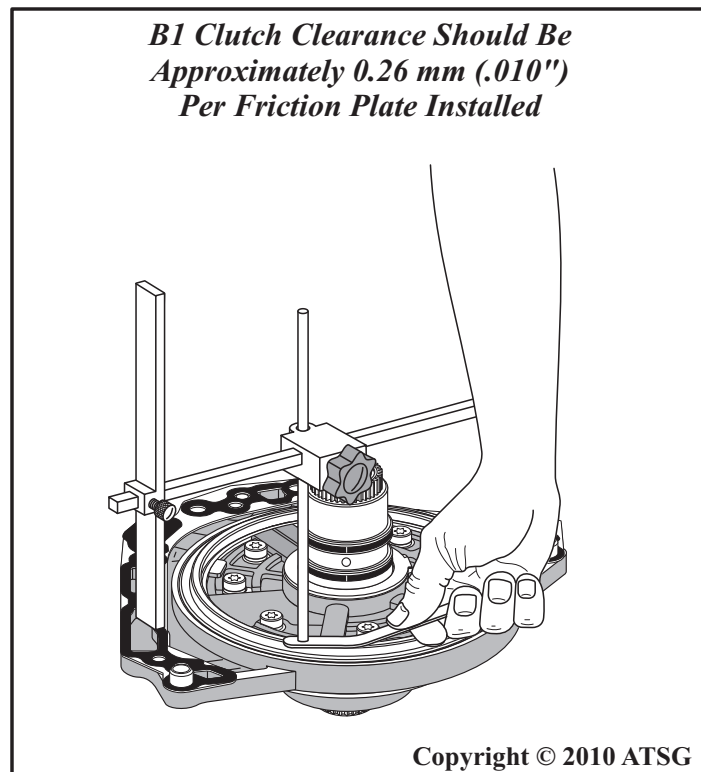

Figure 184
43. Now turn the "H" gage over and set it on the completed oil pump assembly, **"with"** the new design gasket, as shown in Figure 184.